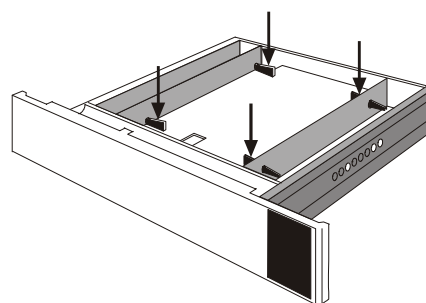

Fig. 7 Removing Transportation Inserts
- Pull out, lift upwards and remove the trays from TowerFeed so as to remove the transportation inserts (Fig. 7). There are two at each side (keep the inserts for reshipment).